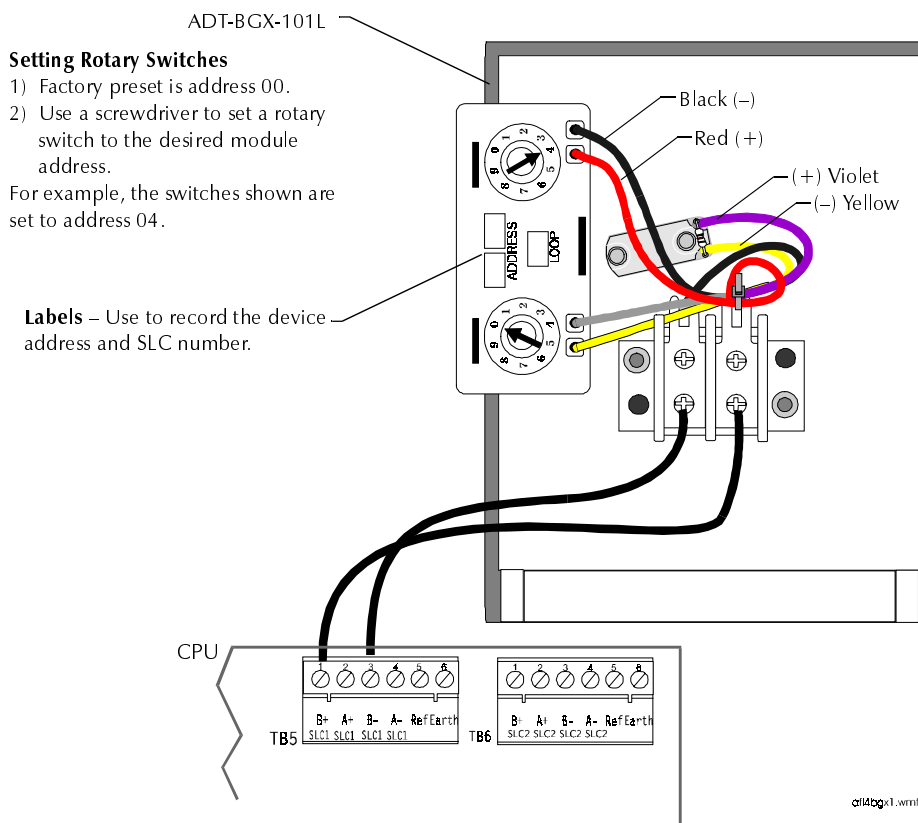

Figure 2-79 Typical SLC Wiring of an ADT-BGX-101L Pull Station
3. Set the SLC address of the ADT-BGX-101L as shown in Figure 2-79.
Figure 2-79 shows typical wiring for an ADT-BGX-101L (back view shown) and provides instructions for setting the SLC address: